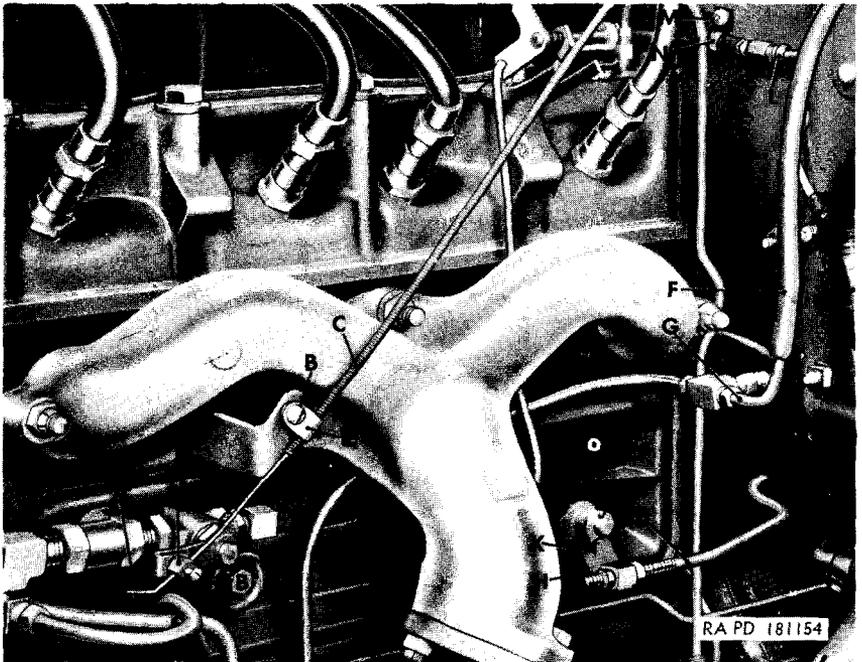

Figure 18. Disconnect points at left side of engine.
- (1) *Disconnect crankcase vent metering valve* (fig. 18). Straighten bent end of crankcase vent metering valve wire (A). Loosen bolts (B). Pull crankcase vent metering valve wire (A) and conduit (C) from crankcase vent metering valve swivel (D) and clamp (E).
- (2) *Disconnect tee-to-windshield wiper line* (fig. 18). Disconnect the tee-to-windshield wiper line (F) from vacuum pump line (G).
- (3) *Disconnect accelerator pedal* (fig. 18). Remove plain nut (H). Pull accelerator bellcrank link rod (J) from lower accelerator bellcrank (K) and into drivers compartment.
- (4) *Disconnect master brake cylinder vent line* (fig. 18). Disconnect master brake cylinder vent line (L). Remove lockwasher screw (M) and pull master brake cylinder vent line-to-dash panel clip (N) away from dash panel.